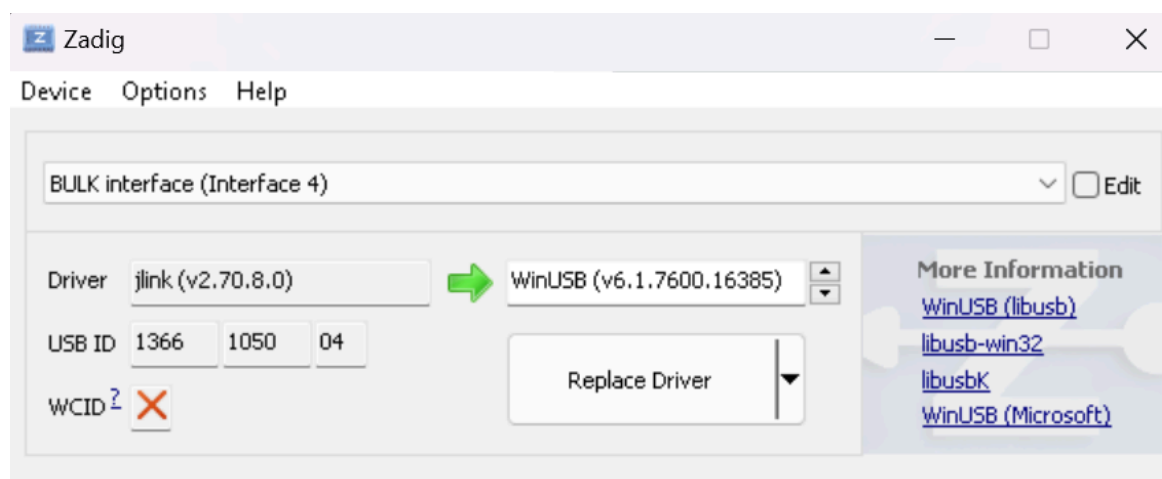
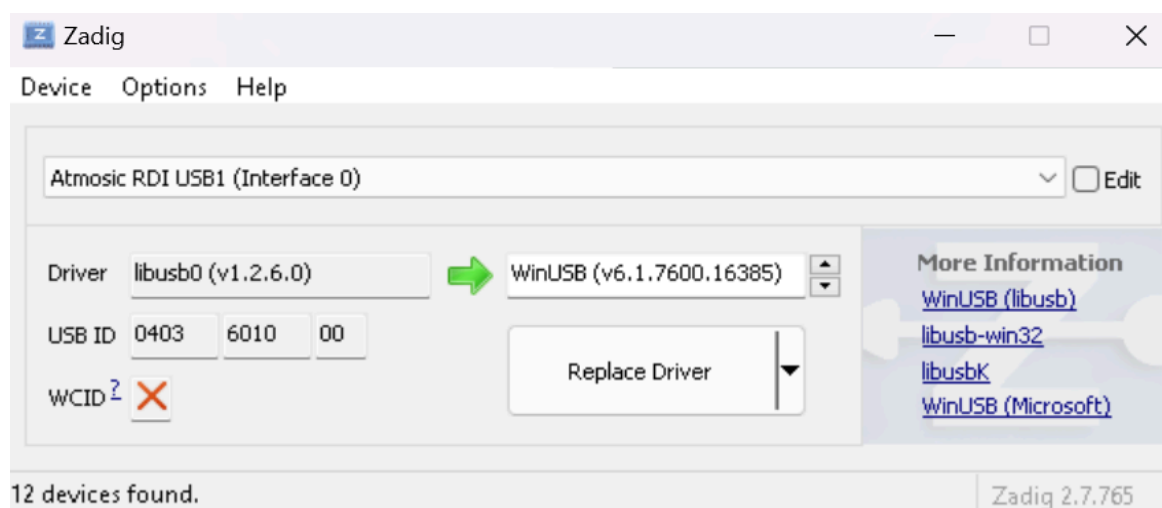

Figure 3 - Replace Driver for ATM33/e or ATM34/e Using Zadig
Figure 4 - Replace Driver for ATM2 or ATM3 Using Zadig
- Figure 3 - Replace Driver Using Zadig
- Figure 4 - Replace Driver for ATM2/ATM3 Using Zadig
Refer to Figure 3 and Figure 4.